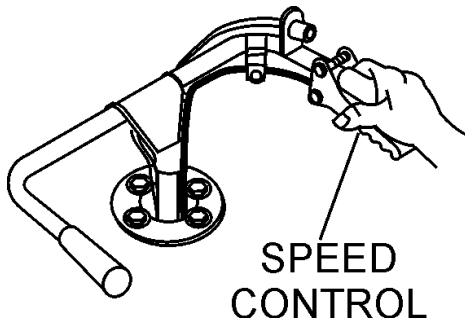

Figure 18. Speed Control Lever
3. Check the speed control lever (Figure 18) located on the right side of the handle bar. The speed control should work freely when squeezed by hand, and return to the closed position when released.
5. Slowly squeeze the speed control lever slightly (Figure 18), for a short period of time to test the brake holding capacity. If the buggy moves forward, adjust the brakes as outlined in the maintenance section of this manual.
2. Squeeze the speed control lever (Figure 18) slightly until the buggy begins to move in a forward direction. Initially, let the buggy travel at about 3 MPH.